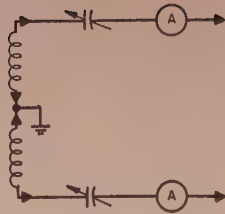

Fig 2
2. A series tuned circuit for 80-75 meters. (fig 2.)